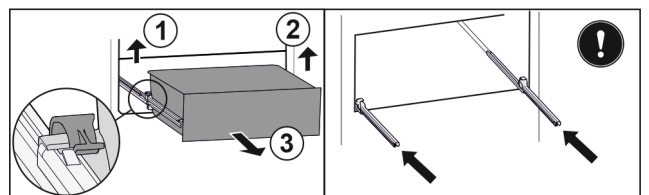

Fig. 162
- Lift left clamp and simultaneously pull drawer forwards on the left. Fig. 162 (1)
- Lift right clamp and simultaneously pull drawer forwards on the right. Fig. 162 (2)
- Remove drawer to the front. Fig. 162 (3)